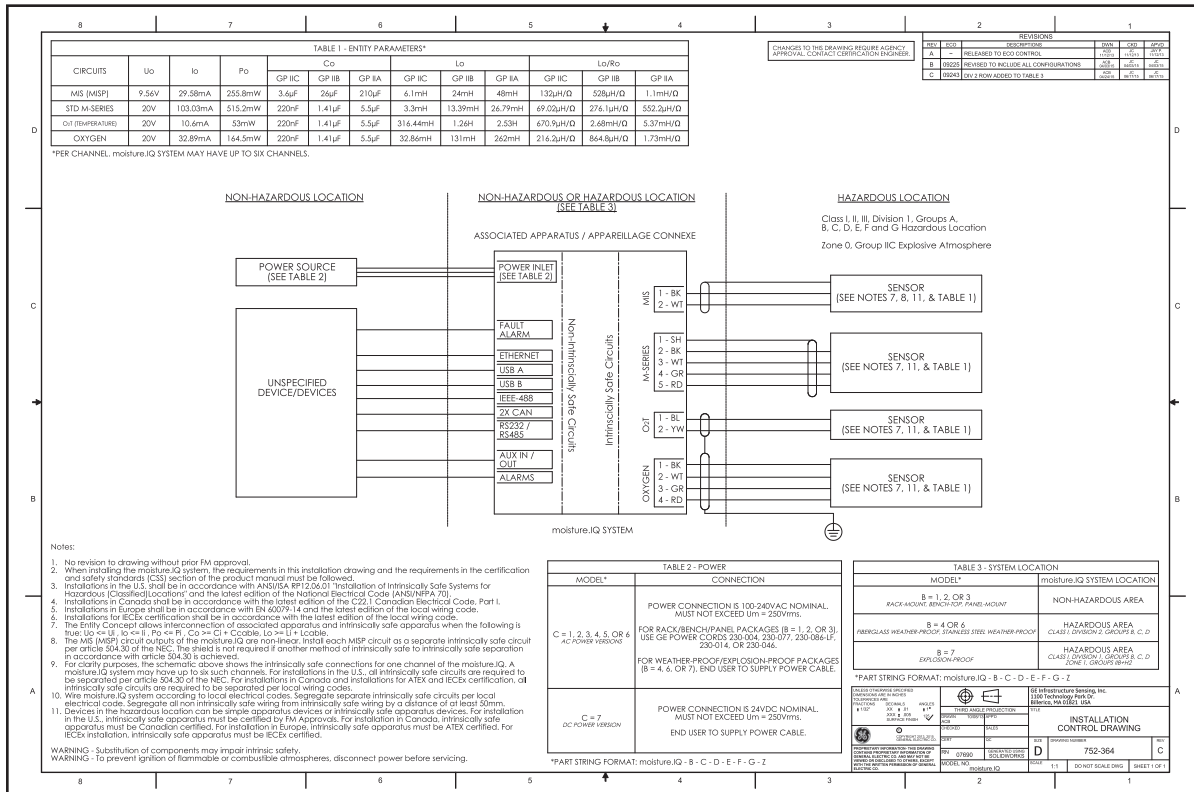

Figure 1: Installation Control Drawing (ref. dwg. 752-364_C, SH 1 of 1)
- The installation should comply with controlled drawing 752-364 (see *Figure 1 on page 2*) and drawing 752-513 Sheets 1-7 (see *Figure 2 on page 2 through Figure 8 on page 5*).